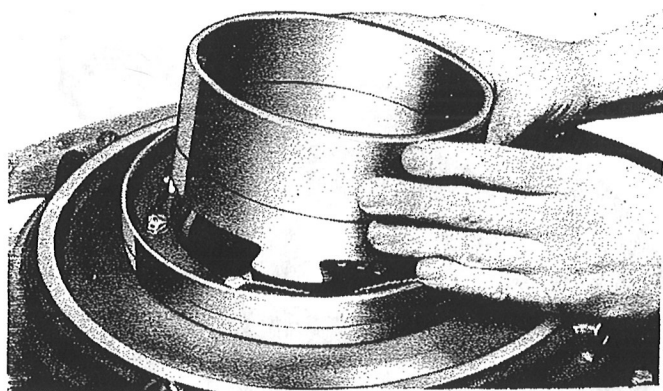

Figure 45—Installing Regulator Nut Wrench
(1) Support the propeller in a dolly or place on a padded floor with the regulator side up.
(2) Insert the regulator nut wrench in the regulator nut. (See figure 45.) Set the dovetail lobes of the wrench into the regulator nut.